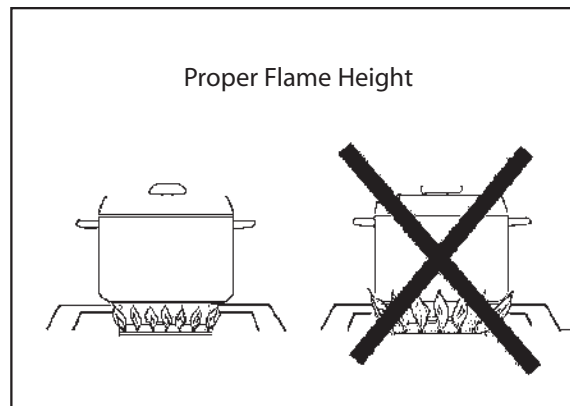

Fig. 5
- For safety reasons the flame must never extend beyond the bottom of the cooking utensil. Never allow flames to curl up the side of the pan (see Fig. 5).